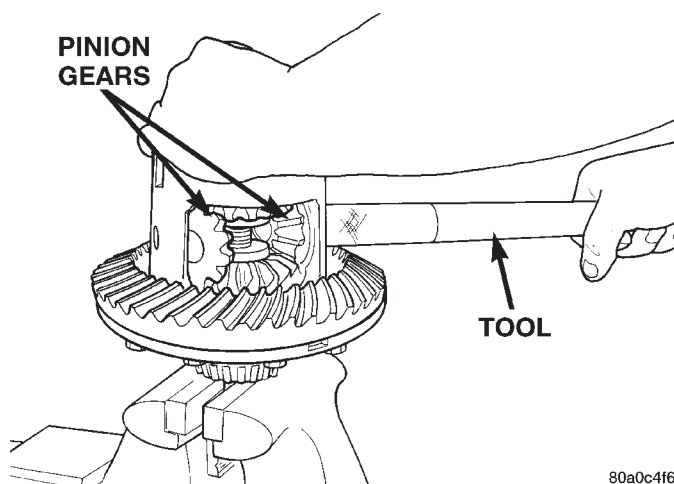

Fig. 43 Pinion Gear Removal
(11) Insert Turning Bar C-4487-4 in case (Fig. 43).
(12) Loosen the Forcing Screw C-4487-2 in small increments until the clutch pack tension is relieved and the differential case can be turned using Turning Bar C-4487-4.
(13) Rotate differential case until the pinion gears can be removed.
(14) Remove pinion gears from differential case.